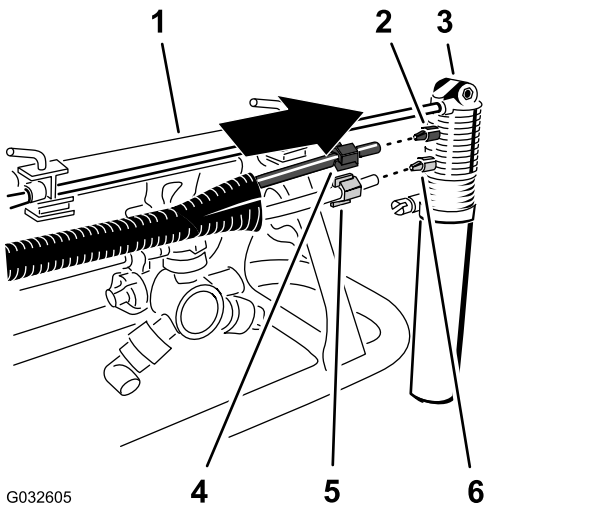

Figure 13
1. Slip the blue compression nut over the ends of blue tube and the white compression nut over the clear tube (Figure 13).
2. Align the end of the clear tube with the white compression nut to the white fitting of the foam-marker nozzle, and tighten the compression nut by hand (Figure 13).
3. Align the end of the blue tube with the blue compression nut to the blue fitting of the foam-marker nozzle, and tighten the compression nut by hand (Figure 13).